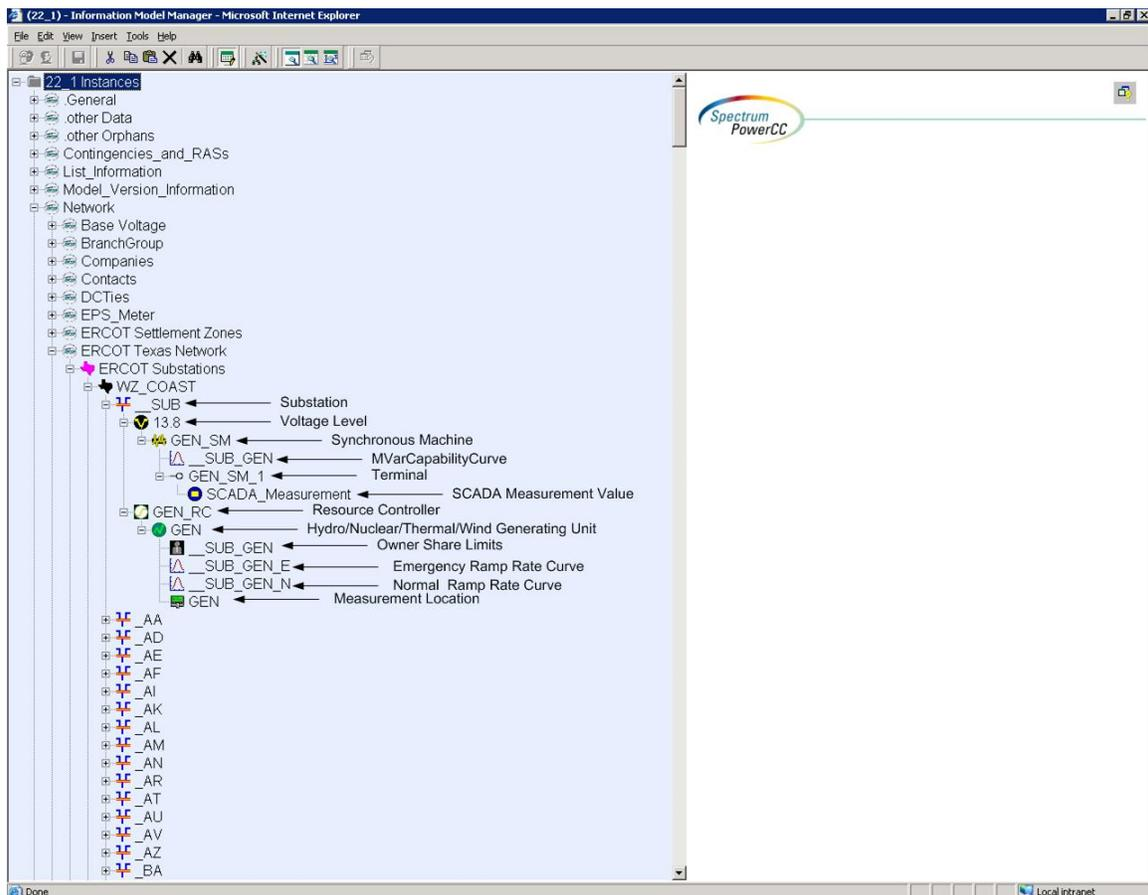

Figure 52 – Modeled Generating Unit with parent/child associations labeled.
*GeneratingUnit* is modeled using a *ResourceController*, *GeneratingUnit*, and *SynchronousMachine*. Figure 52 below shows a Generating Unit as modeled in IMM, with parent/child associations labeled. In this figure a Resource Controller named GEN\_RC is modeled under a *Substation*. A Generating Unit, GEN is located under the Resource Controller, GEN\_RC. Within the same substation, under Voltage Level, 13.8 a Synchronous Machine is modeled.